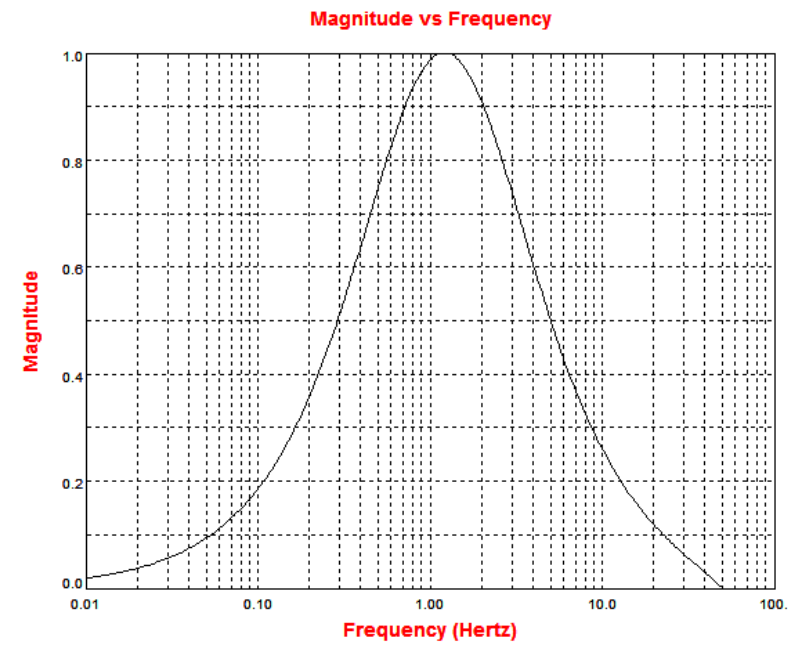

Figure 6 - MitiGator+ ASCE-2597 trigger filter response
- A special trigger filter used in ASCE-2597 applications of 1-5Hz (Figure 6)